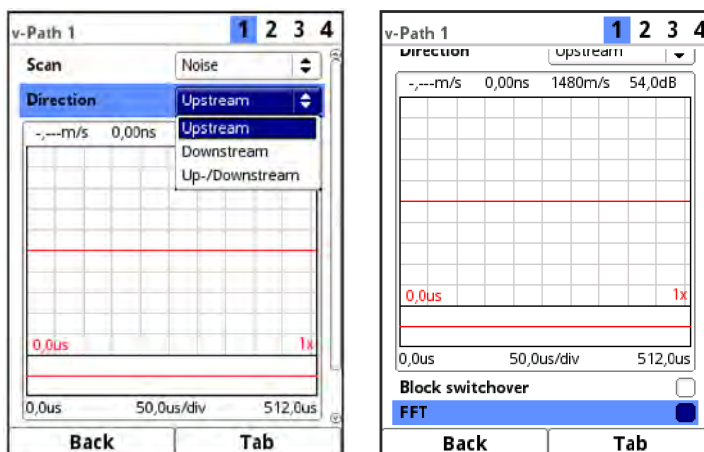

Fig. 44-5 Noise
- **Noise** (Fig. 44-5) Display of all noises (including interference noises) during signal evaluation.